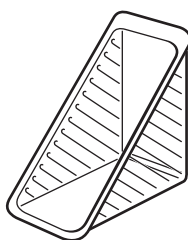

Fig. 6.1
- 6 Fig. 6.1 shows a type of sandwich packaging.